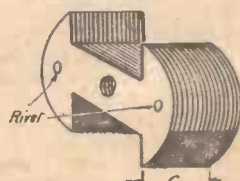
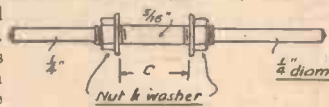

Fig. 4.—The armature.
Fig. 5.—The armature shaft.
The sketch, Fig. 4, illustrates the armature. It is of the "H" or Siemens type, and, as indicated, should be made up of stampings, the number of which should be just sufficient to build up a core of the same width (C) as that of the permanent field magnet. These lamnations should be varnished and then threaded on to the armature shaft (Fig. 5) and secured by the nuts and washers shown in the sketch of this component. To hold the stampings together, a couple of 3/16 in. diameter iron wire rivets (or bolts) may be fitted in the heads of the armature as shown in the drawings. These will allow the stampings to be removed from the shaft as a complete unit.